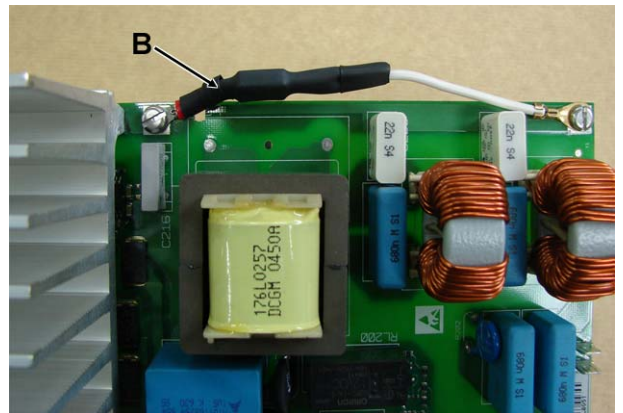

fig. 2
Models EH and EM.  Installation of CEM filter (consult code in machine parts view)	In case this is not fitted at the time of manufacture, updating the machine and installing this filter to protect the inverter against voltage and intensity spikes is recommended. Placement of filter (B) : consult figure 2.